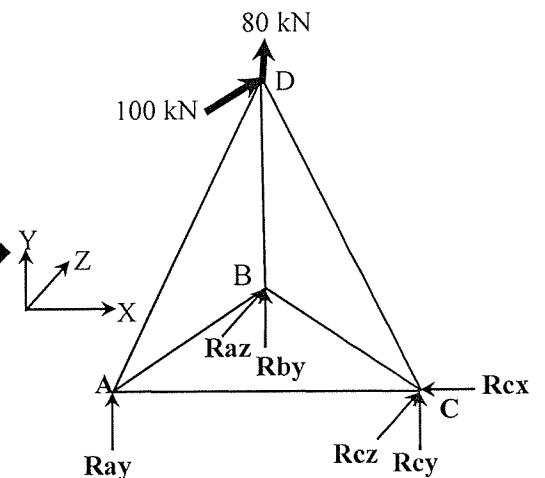

Fig.B4
8. Analyze the space truss shown in **Fig.B4** to determine the reactions and forces of members CD and AC.